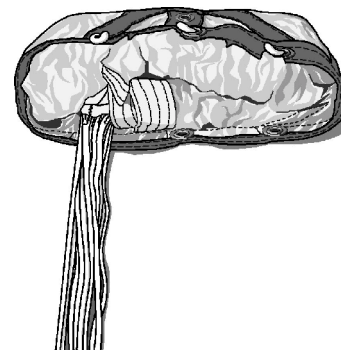

Figure 14. Suspension Line Group Placement
a. Verify the suspension line group exists in the left side of the deployment bag (Figure 14).